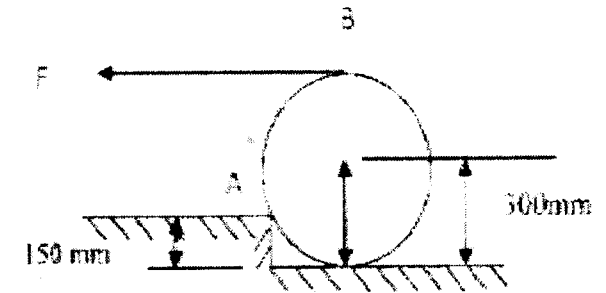

Fig.1
- a) A roller of radius  $r = 300$  mm and weighing 2000 N is to be pulled over a curb of height 150 mm [fig.1] by horizontal force  $F$  applied to the end of a string wound tightly around the circumference of the roller. Find the magnitude of  $F$  required to start the roller move over the curb. What is the least  $F$  through the center of the roller to just turn it over the curb?